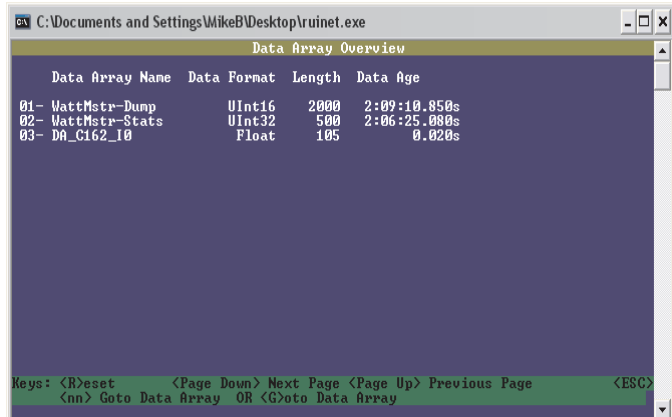

Figure 17: Data Array Overview Screen
14.) From the RUINET Main Menu, type <A> for the Data Array Overview. The Data Array Overview Screen will display (Figure 17).
15.) This screen (**Figure 17**) will verify communication to the HVAC units. Lines 1 & 2 should always be present. After a start-up period of approximately 4 minutes, you will see 1 additional line for each HVAC unit. This screen represents the PT Link communicating with 1 HVAC unit.